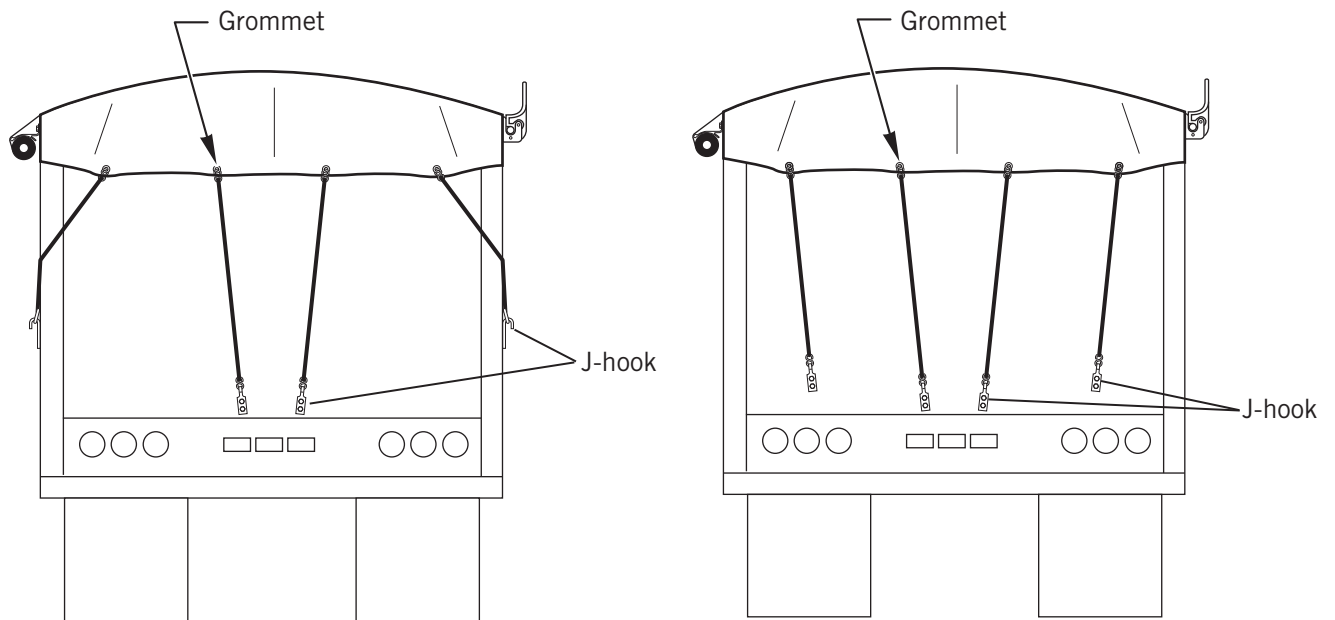

Figure 55
- 1) **Figure 55.** Attach rubber straps to grommets in tarp.
- 2) **Figure 55.** Stretch rubber strap and locate placement of J-hook.